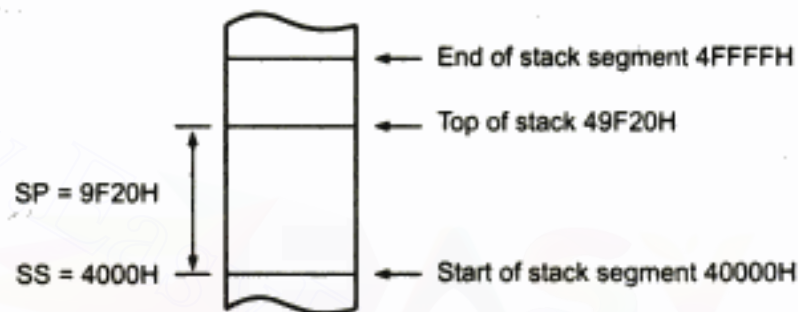

Fig. 2.9 Stack and stack pointer
**Stack Pointer (SP) :** The stack pointer (SP) register contains the 16-bit offset from the start of the segment to the top of stack. For stack operation, physical address is produced by adding the contents of stack pointer register to the segment base address in SS. To do this the contents of the stack segment register are shifted four bits left and the contents of SP are added to the shifted result. If the contents of SP are 9F20H and SS are 4000H then the physical address is calculated as follows. (Refer Fig. 2.9)